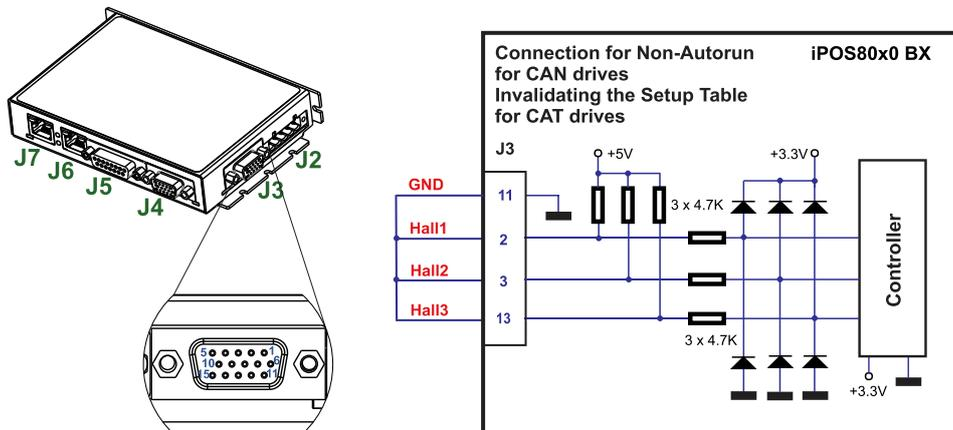

Figure 3.29. Temporary connection during power-on to remove the drive from Autorun mode or disable Setup
- Hardware2 – by temporary connecting all digital Hall inputs to GND, during the power-on for about 1 second, until the green LED is turned on, as shown in **Figure 3.29**. This option is particularly useful when it is not possible to communicate with the drive.
To recover from this behavior, the setup table can be invalidated by connecting all digital Hall inputs to GND, as shown in **Figure 3.29**.